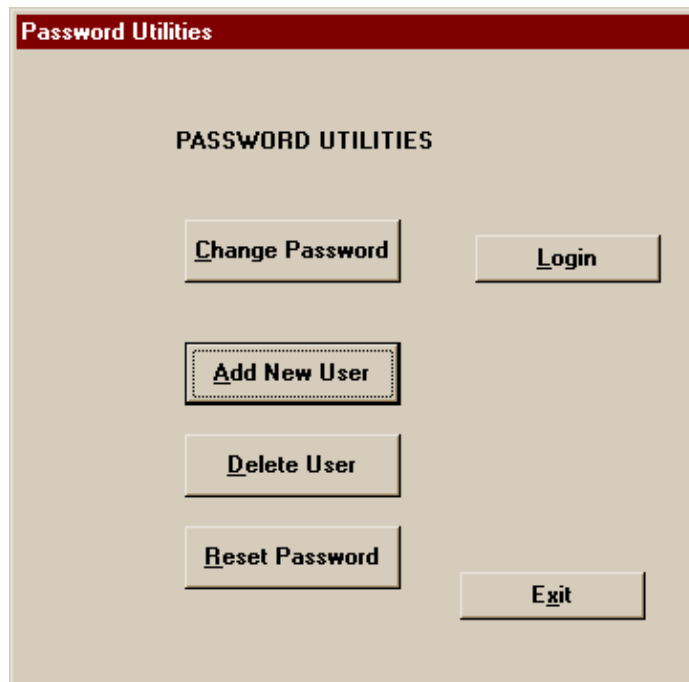

Figure 9. Password Utilities Screen
This function is used to allow established users (logon privileges already assigned) to change their existing passwords to new passwords (refer to Figure 9).
2. Click on the "Add New User" control button (refer to Figure 9).
2. Click on the "Reset Password" control button (refer to Figure 9).